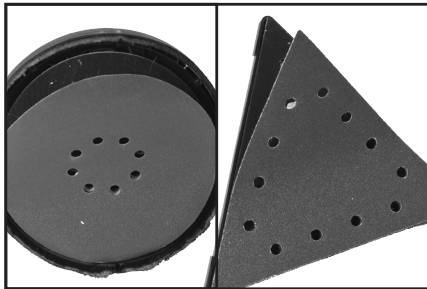

Fig. 8
- Ensure that the holes in the new abrasive disc align with the dust extraction ports in the Sanding Pad. **(Fig. 8)**